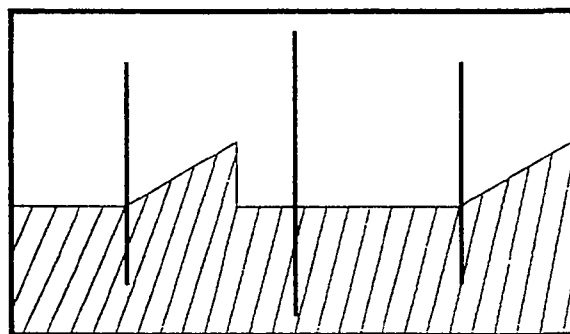

Figure 7 Crosshatched area = illumination area of headlamps
3. Perform optical recalibration of horizontal adjustment by turning the headlamp horizontal adjustment screw so that the headlamps illuminate the test screen as shown in Figure 7.